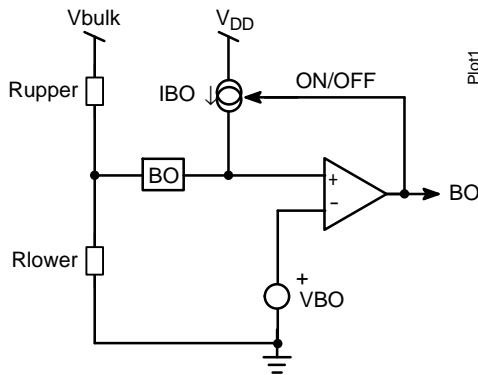

Figure 29a. The internal brown-out configuration with an offset current source.
Figure 29a, offers a way to observe the high-voltage (HV) rail. A resistive divider made of R_{upper} and R_{lower} , brings a portion of the HV rail on pin 3. Below the turn-on level, the 10 μ A current source IBO is off. Therefore, the turn-on level solely depends on the division ratio brought by the resistive divider.